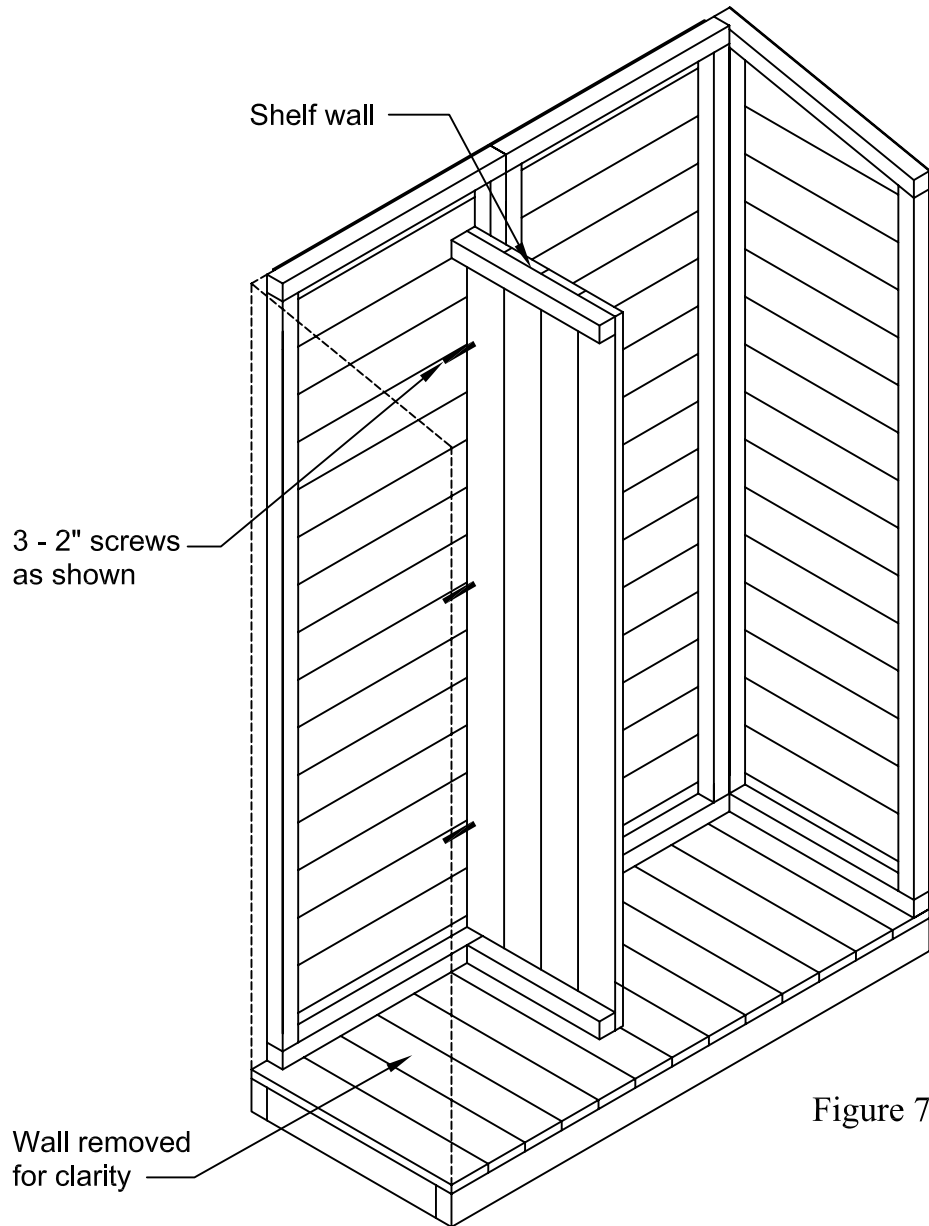

Figure 7
6. Place the shelf wall so that it butts up against the left side of the 2x2 rear wall joint. Be sure that the notch at the bottom fits over the 2x2 bottom plate. Secure with 2" screws. Do not fasten the bottom of the shelf wall just yet. This will allow you to adjust it once the shelves are in place (Figure 7).